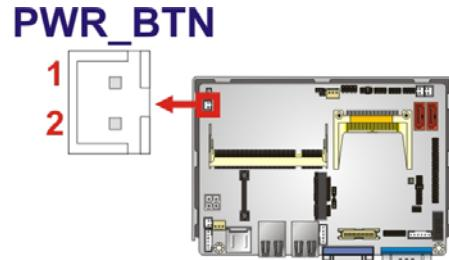

Figure 3-13: Power Button Connector Location
**CN Location:** See Figure 3-13